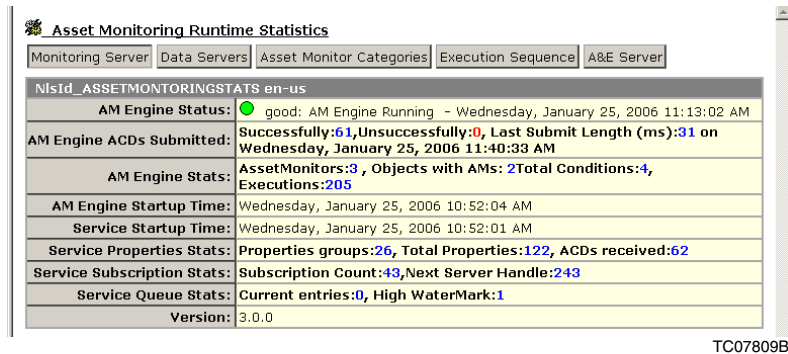

Figure 23. Asset Monitoring Server Runtime Statistics: Monitoring Server Page
1. The **Asset Monitoring Runtime Statistics: Monitoring Server** page (Figure 23) provides, among other things, the following information: